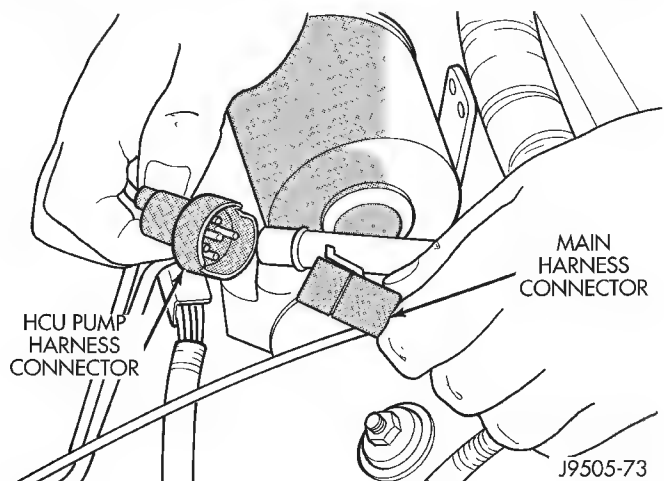

Fig. 20 Disconnecting HCU Pump Harness
(8) Disconnect HCU pump motor harness (Fig. 20).